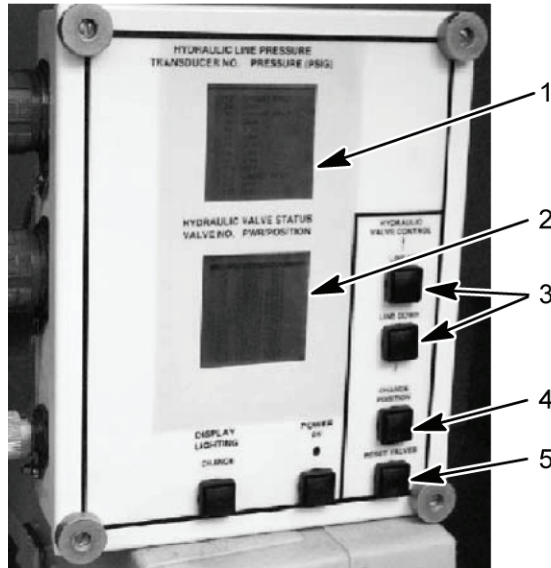

Figure 14. HDC Control Box
- Disable ejector by manually closing the ejector inhibit ball valve V23 (Figure 15, item 2) on the DCV bank. Using LINE UP or LINE DOWN button (Figure 14, item 3), select V1 on the HDC display (Figure 14, item 2). Close V1 on the HDC display (Figure 14, item 2) by selecting the CHANGE POSITION button (Figure 14, item 4) on the HDC control box.
- Have assistant start engine and allow engine to idle (750–800 rpm). Slowly close right main hydraulic pressure inhibit valve V21 (Figure 15, item 1), until transducer T-3 hydraulic pressure on the HDC display (Figure 14, item 1) indicates 3,950–4,050 psi (27,235–27,925 kPa).
- Enable ejector by manually opening ejector inhibit ball valve V23 (Figure 15, item 2) on the DCV bank. Using LINE UP or LINE DOWN button (Figure 14, item 3), select V1 on the HDC display (Figure 14, item 2). Open V1 on the HDC display (Figure 14, item 2) by selecting the CHANGE POSITION button (Figure 14, item 4) on the HDC control box.